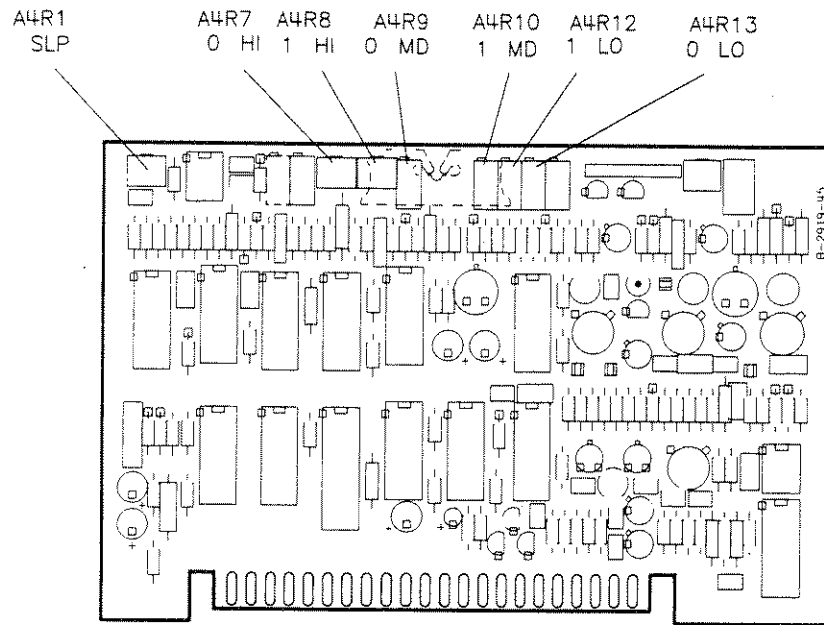

Figure 5-33. Internal Levelled Flatness Adjustment Locations
28. Set the following adjustments as indicated. See figure 5-33 for adjustment locations.